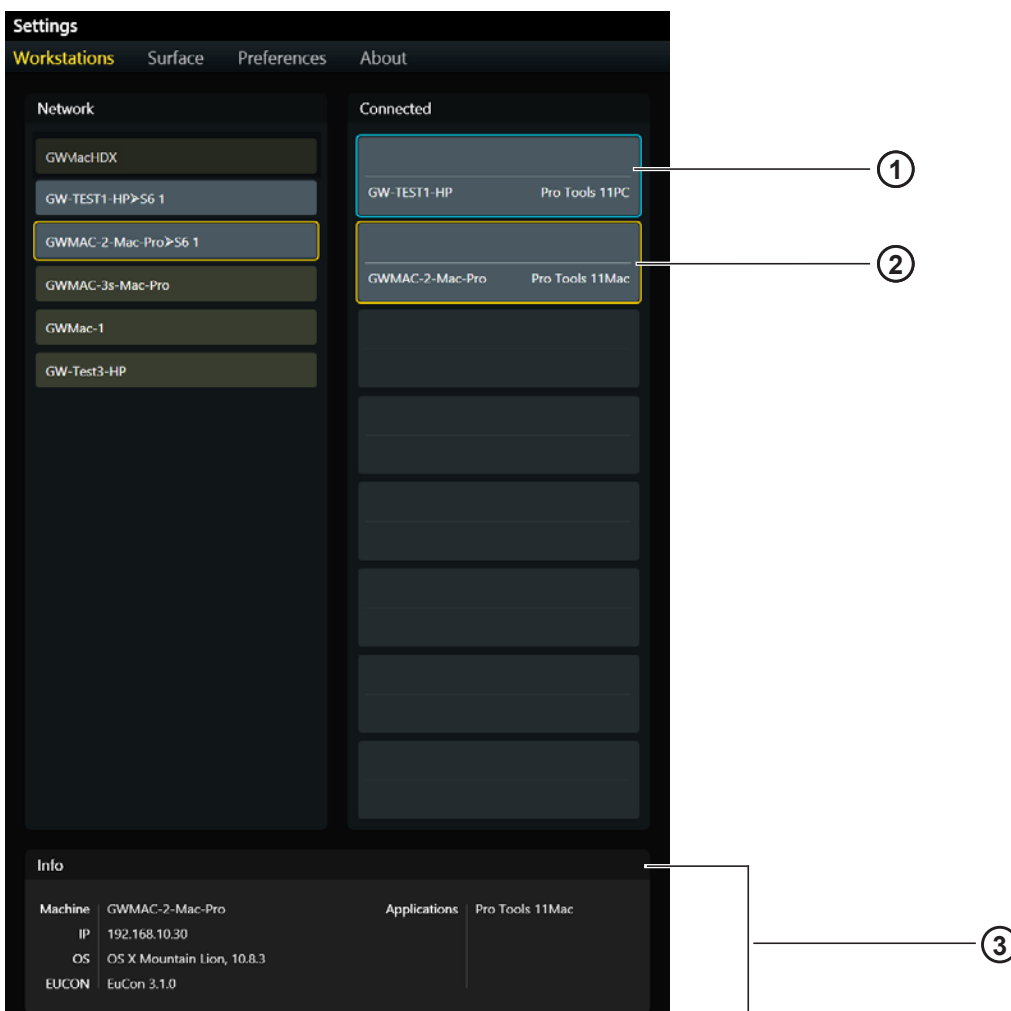

Figure 22. Attentioned (1) and selected (2) workstations with Info area (3)
- Touch a workstation in the Connected list without a blue outline. In Figure 22, GW-TEST1-HP is attentioned (blue outline).
- Touch its entry in the Network list. In Figure 22, GWMAC-2-Mac-Pro is selected (orange outline).